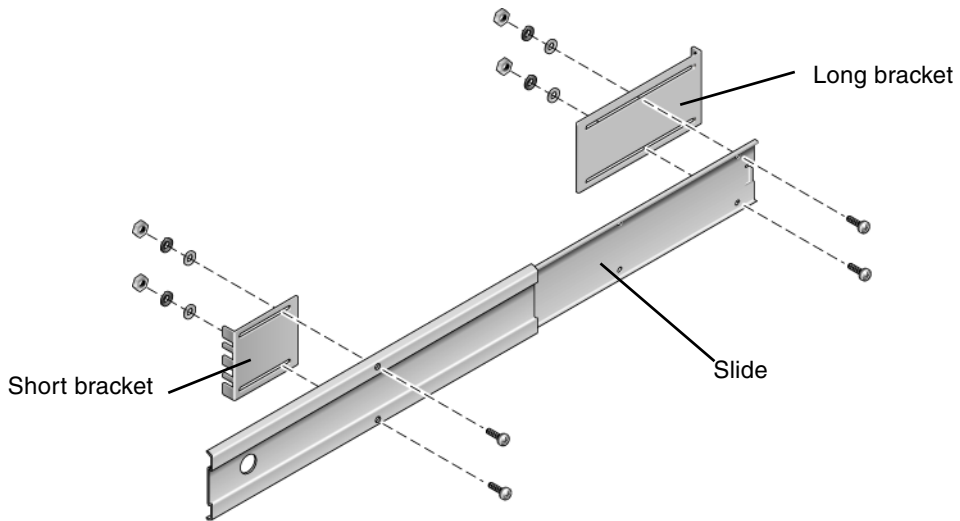

FIGURE 3-11 Securing the Slide to the Brackets
10. Secure the slide onto the short and long brackets at the front and rear of the rack (FIGURE 3-11).